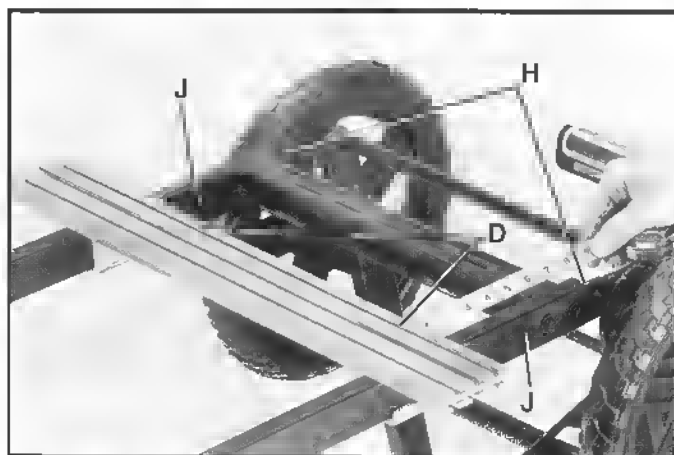
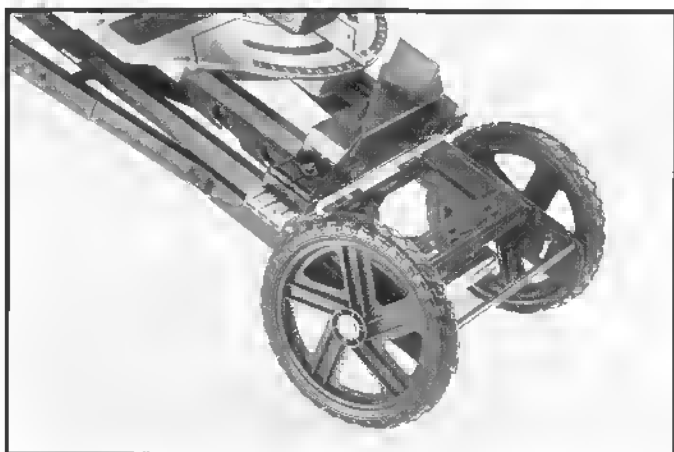
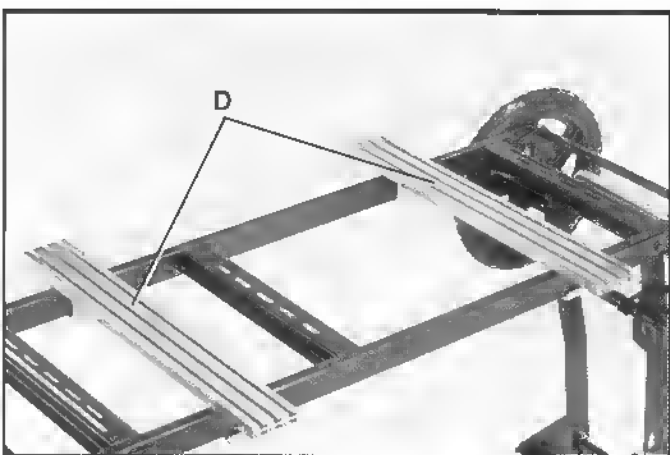
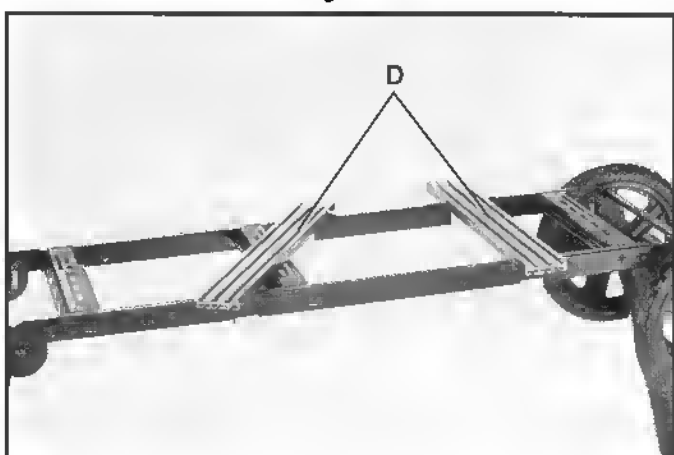

Fig. 31
Fig. 32
Fig. 33
Fig. 34
3. Adjust mounting rail (D) Fig. 31, which is closest to the wheels, so that the overhang is the same at the front and back of the saw stand, and position the outside edge of mounting rail (D) 7-1/4" away from the end (H) of front and rear rails (J) as shown. Then tighten mounting hardware. **NOTE: This mounting rail (D) must be 7-1/4" away from the end of the front and rear rails (J) to allow proper clearance when the saw stand is folded as shown in Fig. 32.**
5. Fig. 33, illustrates the two mounting rails (D) properly positioned and fastened to the saw stand for mounting a Delta Model No. 36-240 10" Sliding Compound Miter Saw. **NOTE: For certain saws, the mounting rails (D) Fig. 33, may need to be configured differently as shown in Fig. 34. The mounting rail closest to the wheels must always be 7-1/4" away from the end of the front and rear rails to allow proper clearance when the miter saw stand is folded as shown in Fig. 32.**